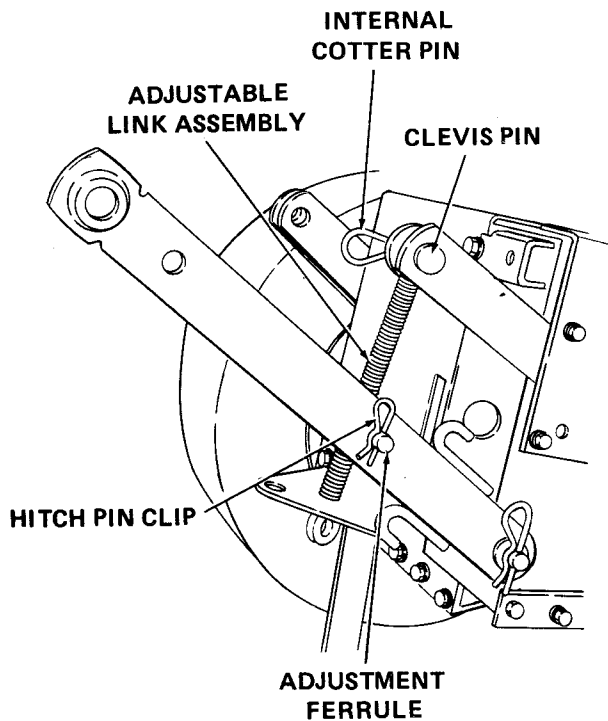

Figure B-20
- b. Secure adjustable link assembly to draft bar assembly by placing hitch pin clip (R) through adjustment ferrule. Refer to Figure B-20.
- c. Place looped end of adjustable link assembly inside external arm of 3-point hitch plate assembly and insert clevis pin (S). Secure with internal cotter pin (O). Refer to Figure B-20.